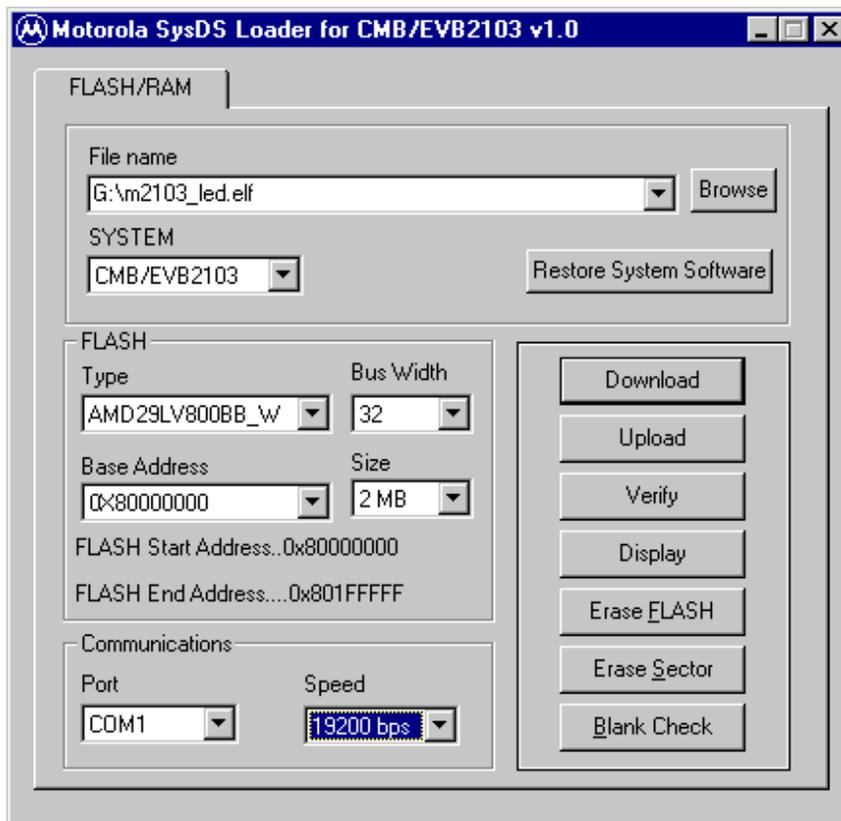

Figure 3-1 SysDS Loader Main Screen
5. Start the SysDS Loader. The main screen (Figure 3-1) appears.